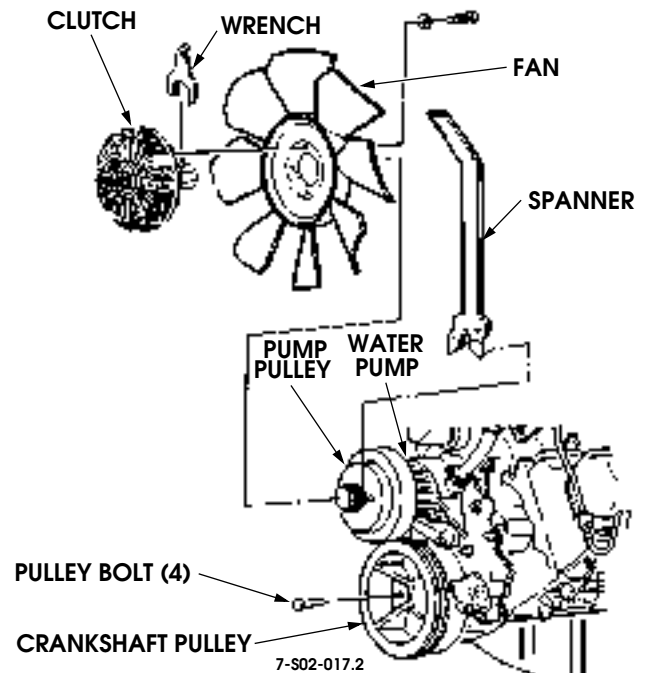

Figure 2-62: Fan and Pulley Removal
1. Insert spanner J-41240-1 in holes in water pump pulley (Figure 2-62).
5. Remove crankshaft pulley attaching bolts and remove pulley (Figure 2-62).